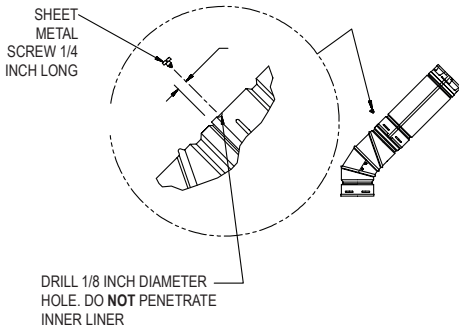

Figure 19
**2. Connections.** In addition to twist locking the elbows, the connection may be further secured by using sheet metal screws at the joint where the male and female parts overlap, provided that the screws **DO NOT** penetrate the inner liner as shown in **Figure 19**. One screw per joint is normally sufficient. Use #8 Pan Head sheet metal screws which are no longer than 1/4 inch. Wall Straps must be